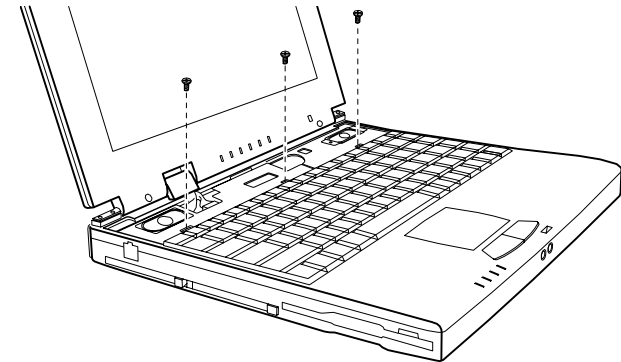

Figure 7-21. Removing Three Screws
2. Replace three screws. (Refer to Figure 7-21 earlier.)